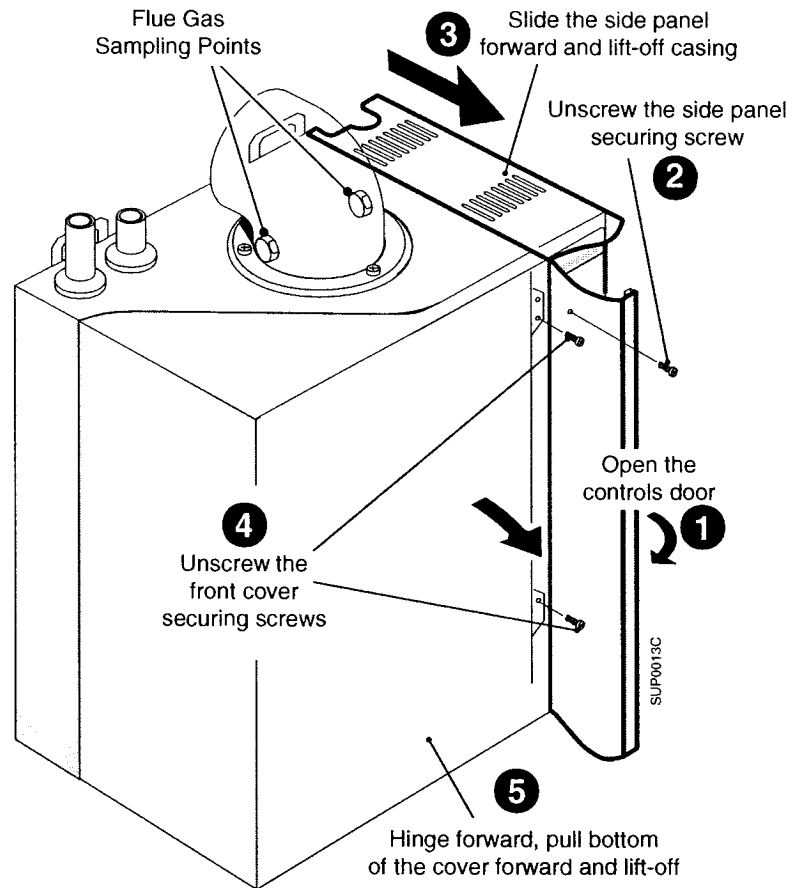

Fig. 14
- Flue** Inspect the flue terminal and flue/air tube for blockage and integrity, rectify if necessary. Flue gas sampling points are located on the flue elbow - see Fig. 14.